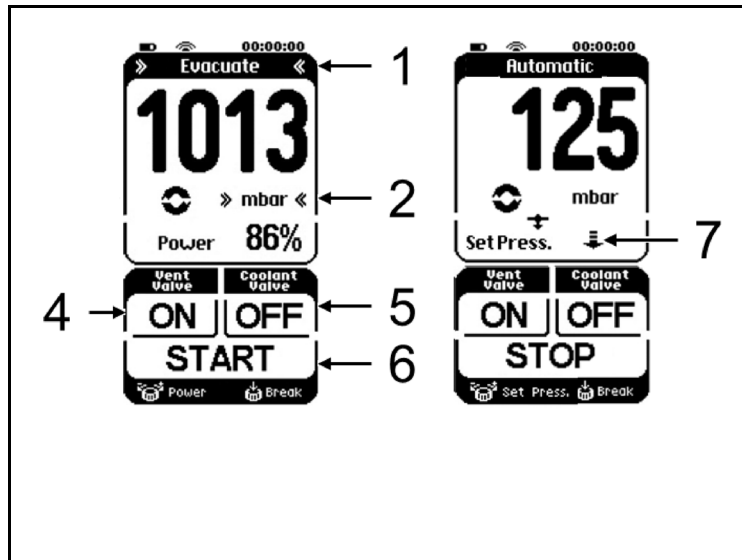

Fig. 9: Menus and buttons on the touchscreen
- Menu for selecting operating mode and units for pressure display (Fig. 9, page 24).
- Operating buttons (Fig. 9, page 24) with the following functions:
**i** If you press the arrow key (see Fig. 9/7) during automatic pressure reduction, the current pressure is applied as the new setpoint pressure and the vacuum pump system regulates to this pressure. The current setpoint pressure is shown in the display in place of the arrow.